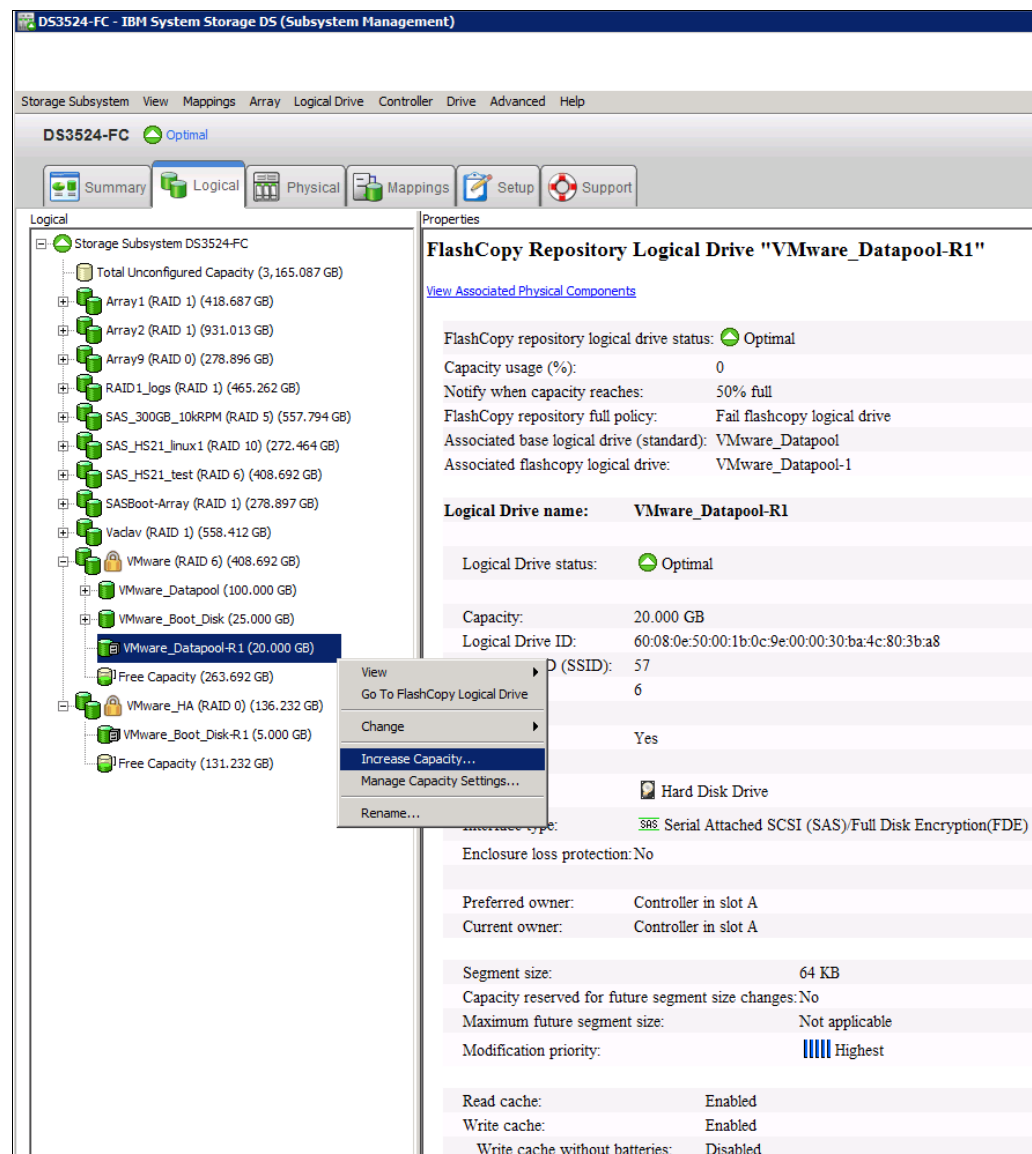

Figure 2-34 FlashCopy Repository logical drive: Increase Capacity
2. Click **Logical Drive** → **Increase Capacity** or right-click and select **Increase Capacity** (Figure 2-34).